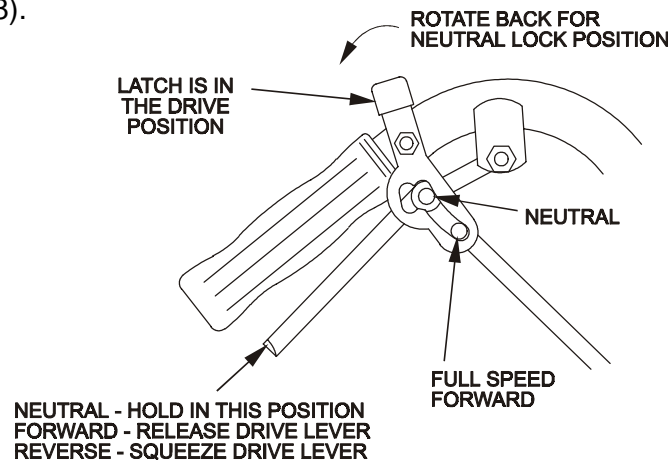

FIG. 8
4.1.3 Drive Levers: Located on each side of the upper handle assembly directly below the handle grips (See Figure 8). These levers individually control the speed and direction of each drive wheel. When the speed control lever is moved out of the neutral position and the neutral lock latches are moved into the drive position, as shown in Figure 8, and the drive levers are released, the drive wheels are engaged in the forward direction.
- 4.1.4 **Neutral Lock Latch:** Located directly above the drive levers. These latches allow the operator to lock the drive levers in a "neutral" position where neither of the drive wheels are engaged in either a forward or reverse direction (See Figure 8).
- 4.3.4 Drive Lever/Neutral Lock Latch Operation: To lock the drive levers in neutral, squeeze the drive levers back to the neutral position (***Do Not squeeze the drive levers all the way back as this will cause the drive wheels to go into full reverse direction***). Place thumbs on the upper portion of the neutral lock latches and move them to the rear. Release drive levers (See Figure 8).